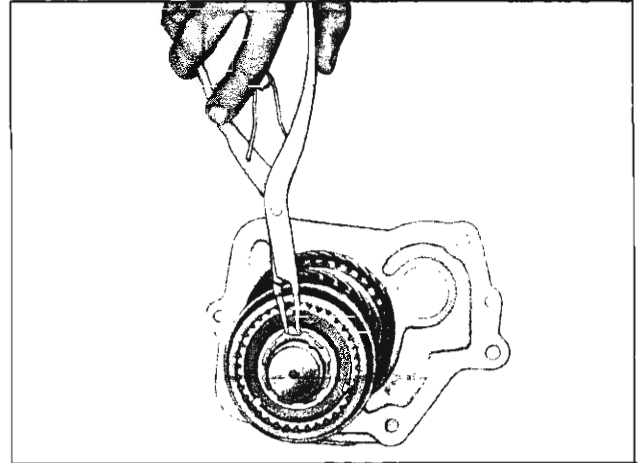

Fig. 12M—Removing Mainshaft Front Snap Ring
15. Remove mainshaft front snap ring as shown in Figure 12M and slide third and fourth speed clutch assembly, third speed gear and synchronizing ring from front of mainshaft.